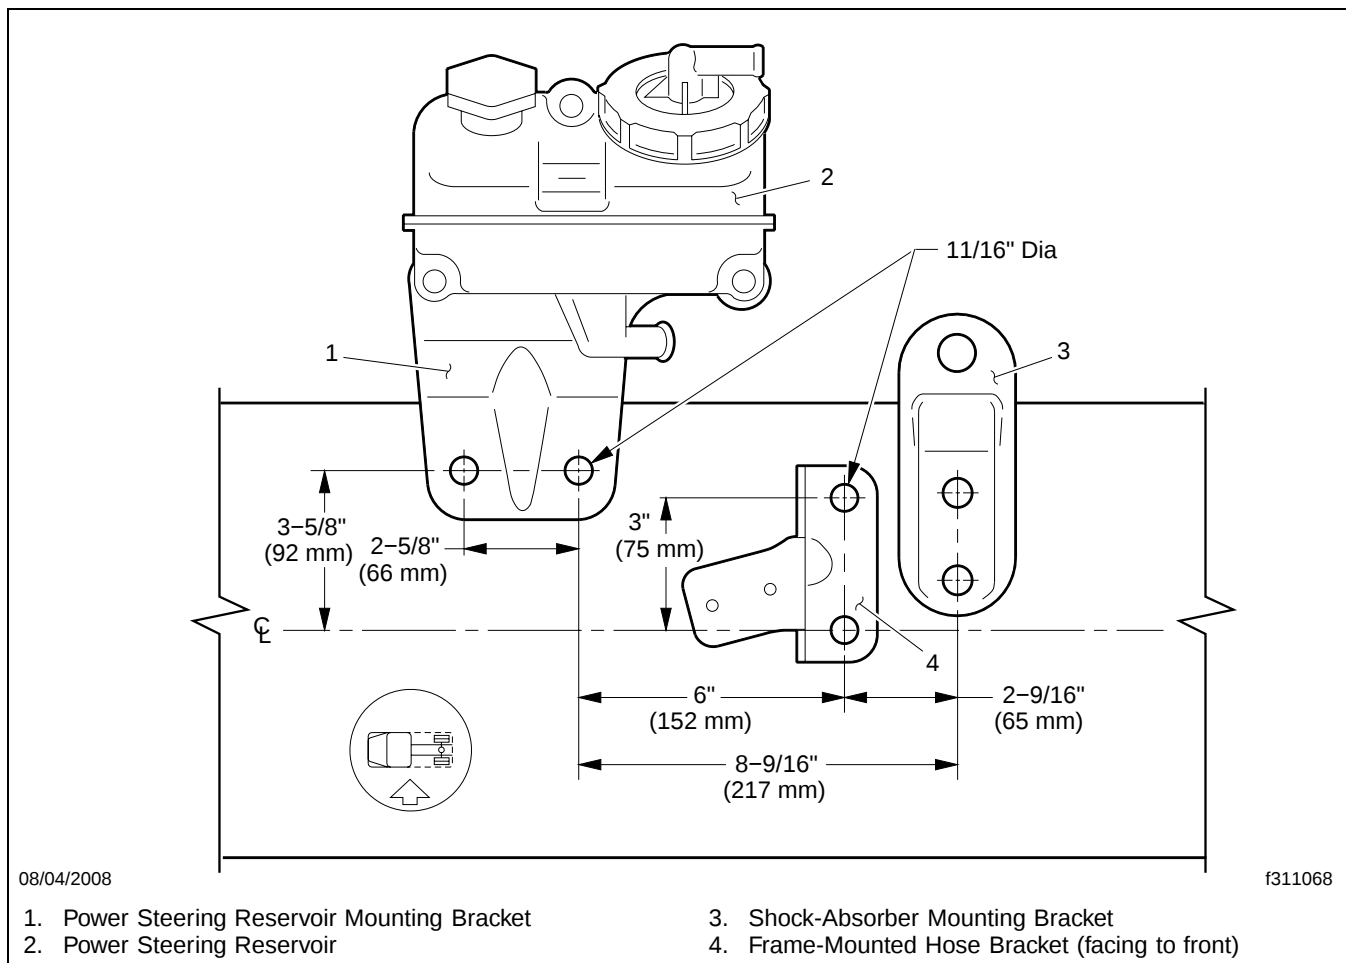

Fig. 3, Drilling and Mounting Locations
14. Mark the layout of the holes on the frame, using the drilling diagram. See **Fig. 3**.
24. Install the frame-mounted hose bracket, as shown in **Fig. 3**.